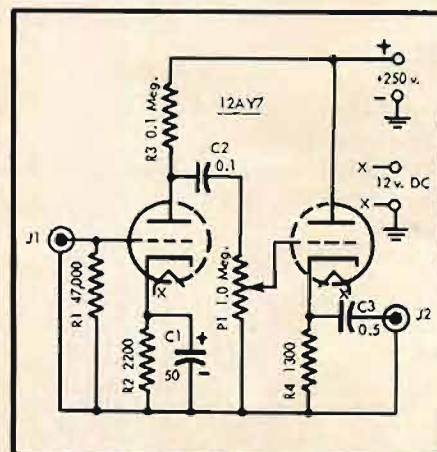

Figure 1
*A. Figure 1 should solve your problem.*